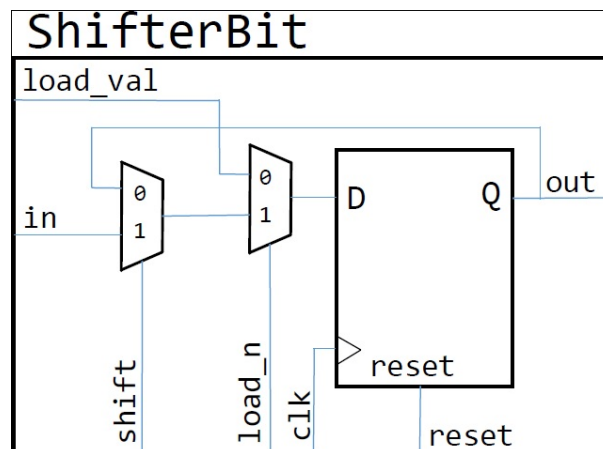
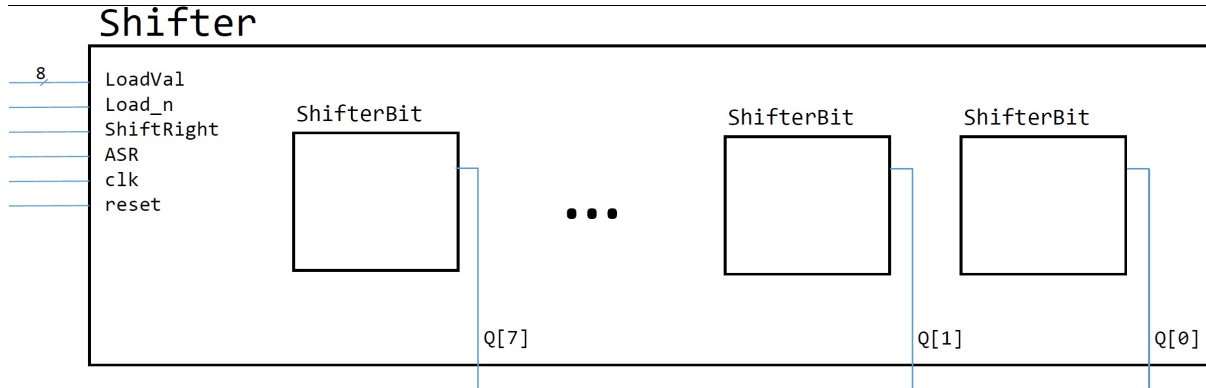

Figure 4: Single-bit shift-register
Figure 5: 8-bit shift-register of Part III. **None** of internal connections are shown here.
A shift register is a sequence of flip-flops that move their contents one flip-flop down the row on each rising clock edge. Figure 4 shows one bit of this shift-register. It contains a positive edge-triggered flip-flop to store the ShifterBit's value and two multiplexers that determine the source of the ShifterBit's contents.
To create an 8-bit shift-register, you will use eight instances of the circuit in Figure 4 to design your 8-bit shift-register with optional arithmetic shift and parallel load as shown in Figure 5.
3. The *ShiftRight* input which feeds into the *shift* input of all eight instances of the ShifterBit circuit in Figure 4.
For the leftmost ShifterBit, you should design a circuit that will perform sign-extension when the signal *ASR* is high (arithmetic right shift) or load zeros if *ASR* is low (logic right shift). This special circuit is not shown in Figure 5.
1. What is the behaviour of the 8-bit shift register shown in Figure 5 when $Load_n = 1$ and $ShiftRight = 0$? Briefly explain in your prelab. **(PRELAB)**
2. Draw a schematic for the 8-bit shift register shown in Figure 5 including the necessary connections. Your schematic should contain eight instances of the one-bit shifter (i.e. the ShifterBit) shown in Figure 4 and all the wiring required to implement the desired behaviour. Label the signals on your schematic with the same names you will use in your Logisim circuit. **(PRELAB)**
3. Starting with the built-in positive edge-triggered D flip-flop found at *Memory > D Flip Flop*, use this D flip-flop with instances of the *mux2to1* module from Lab 2 to build the one-bit shifter shown in Figure 4. **(PRELAB)**